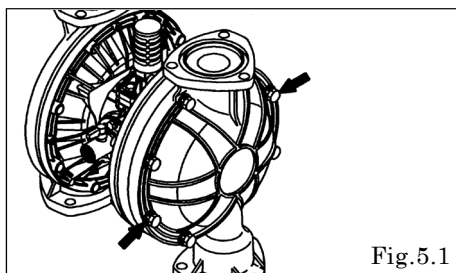

Fig.5.1
- Remove the 16 (24 on the NDP-H80) retainer bolts from the out chamber, and remove the out chamber. [Fig.5.1]